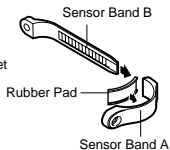
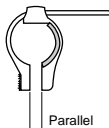

Fig. 15
Fig. 16
1. Insert the band B into the slit of the band A, and put the rubber pad inside of the band A (Fig. 15). Adjust the length in order that the screw-fastening part of the bands are parallel when mounted to the fork (Fig. 16). \*To pull out the band B from the band A, tug strongly.